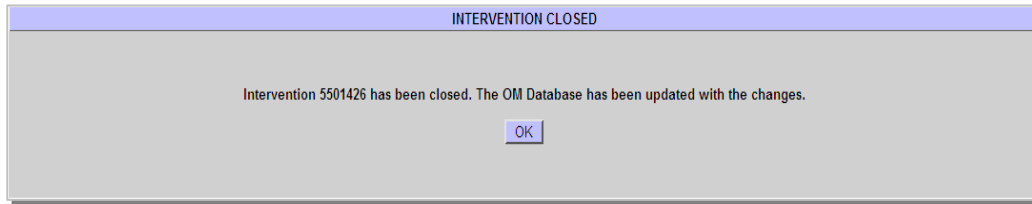

Figure 15.6-11. Intervention Closed
- An **Intervention Closed** dialog box (Figure 15.6-11) displays.